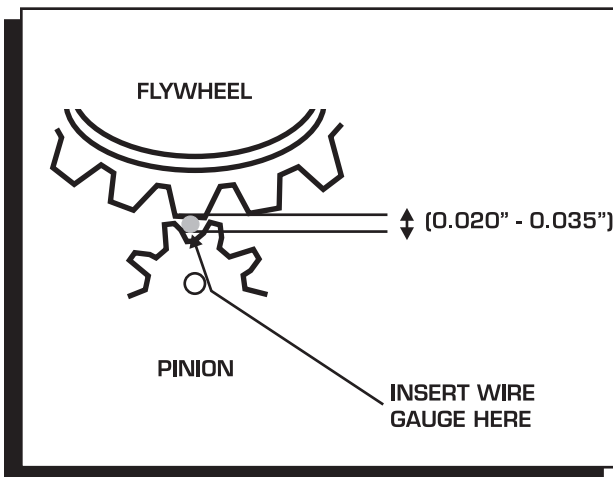

Figure 4 Checking Gear Mesh.
5. To check the pinion gear mesh, gently pry the gear out to engage to the ring gear. (Sometimes the pinion will not retract. This is normal.) Insert a wire gauge as shown in Figure 4. As a gauge, a standard 1.25" paperclip could be used as they generally are about .035" in diameter. There should be .020"-.035" clearance between the ring gear tooth and the pinion gear.